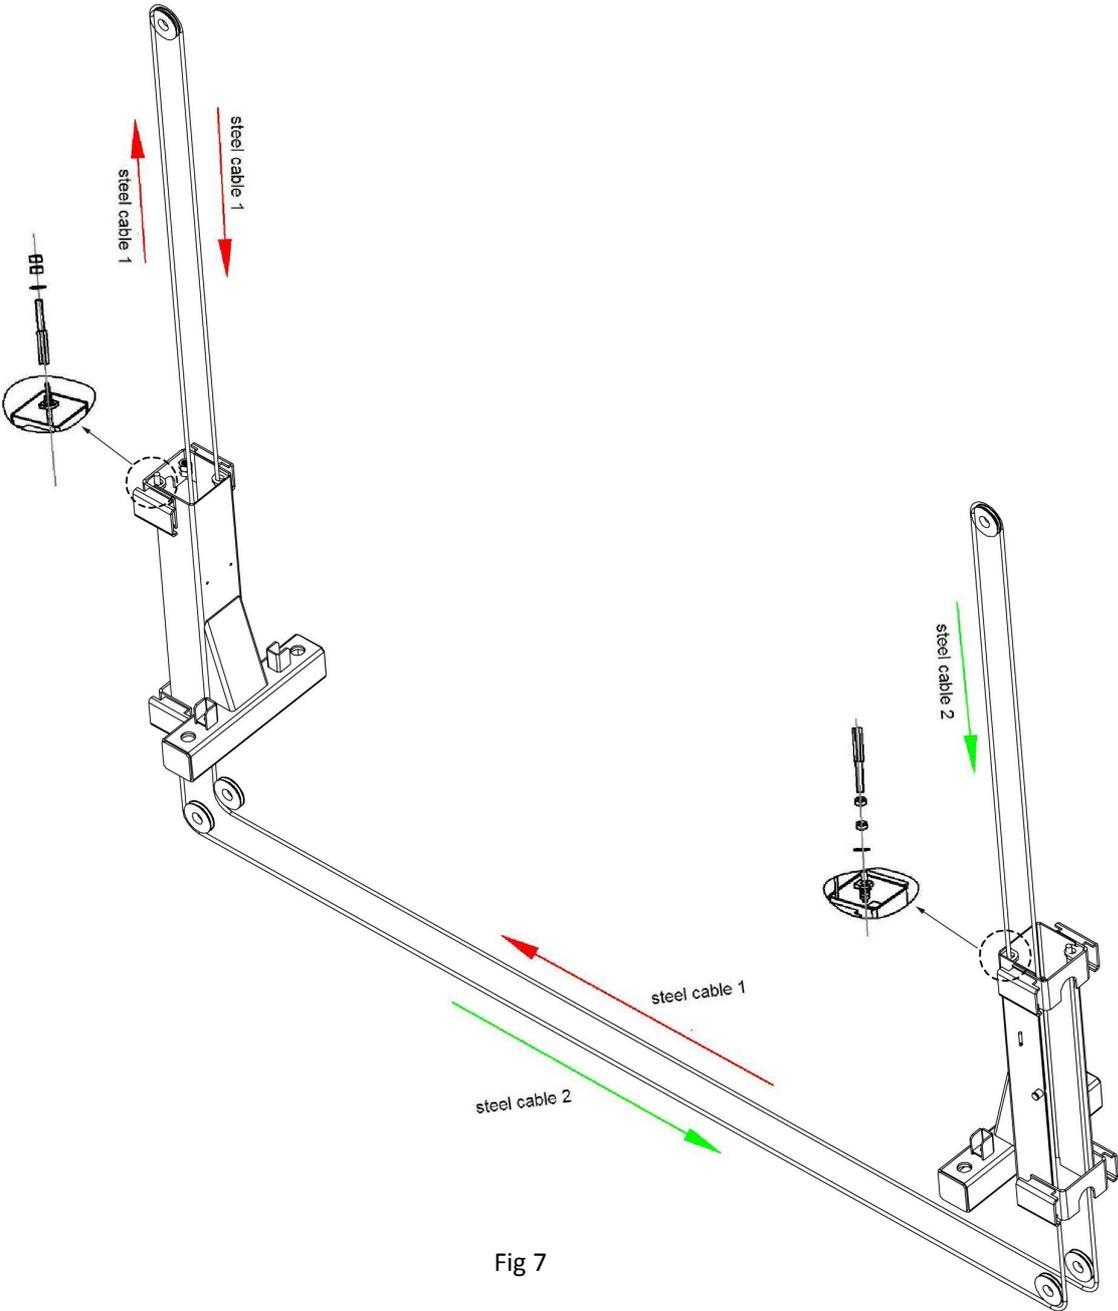

Fig 7
**Step6: Connect steel cables. (Fig 7)**